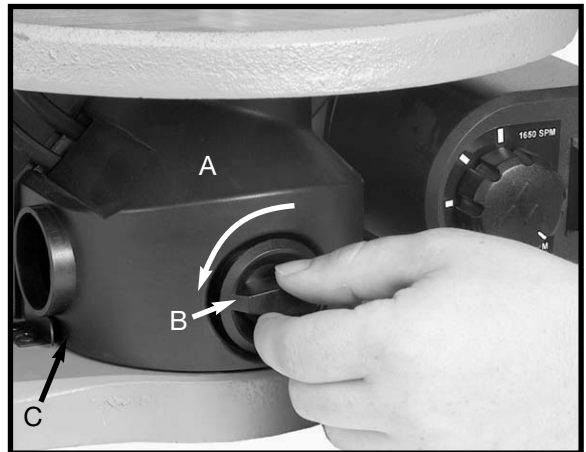
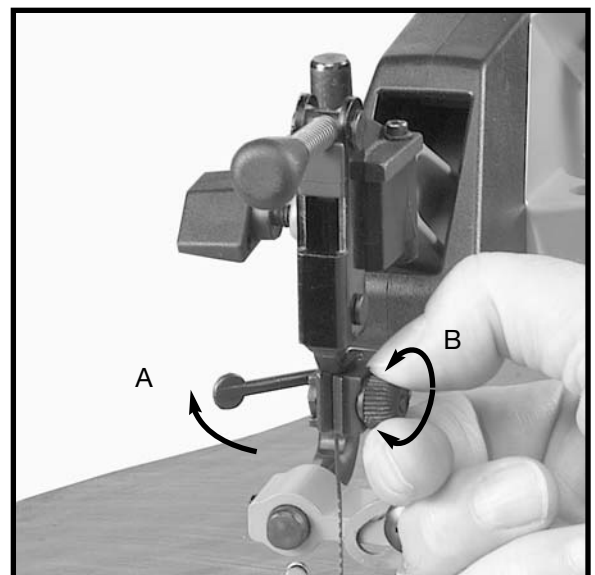
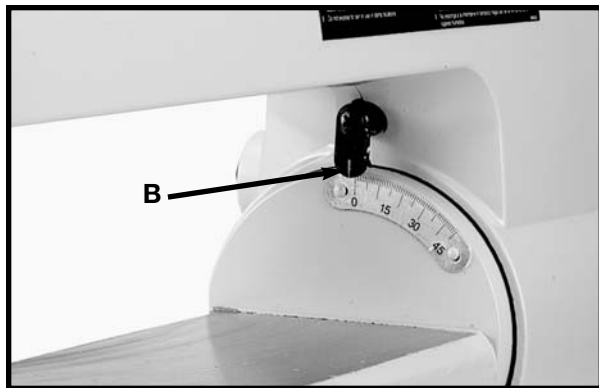
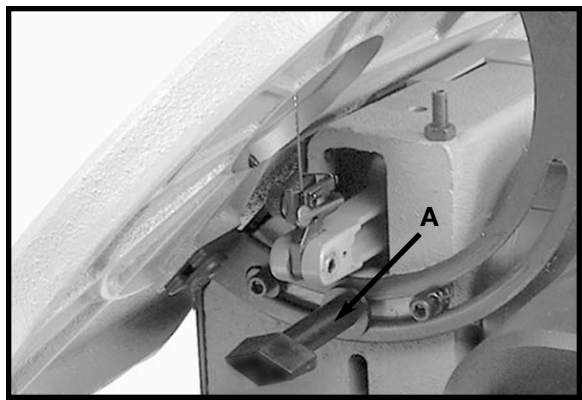

Fig. 12
Fig. 17
Fig. 19
Fig. 18
4. Remove the dust collection cup (A) by rotating knob (B) 90° as shown in Fig. 12. Slide dust cup out of the guides (C) by pulling it toward the front. **NOTE: DO NOT OPERATE THE UNIT WITH THE DUST CUP REMOVED.**
1. Move the blade holder chuck locking lever (A) Fig. 17, to the rear (open) position, as shown.
2. Turn chuck clamping knob (B) Fig. 17, clockwise to tighten and counterclockwise to loosen the clamping action of the blade holder chuck. Very little movement of knob (B) will be necessary. **NOTE:** Only the upper chuck is shown. Clamping action of the lower chuck is adjusted in the same manner and can be accessed by removing dust cup shown in Fig. 12.
The table on your scroll saw can be tilted 45° to the left for bevel cutting operations by removing the dust cup as shown in Fig. 12 and loosening table lock knob (A) Fig. 18, tilt the table to the desired angle indicated on degree scale (B) Fig. 19 and tighten lock handle (A) Fig. 18.
1. Loosen table lock knob as shown in Fig. 18 and move the table all the way to the right until angle indicator shown in Fig. 19 is on "0".
**Note:** After adjusting table, reposition the angle indicator (B) Fig. 19 to "0" degrees.